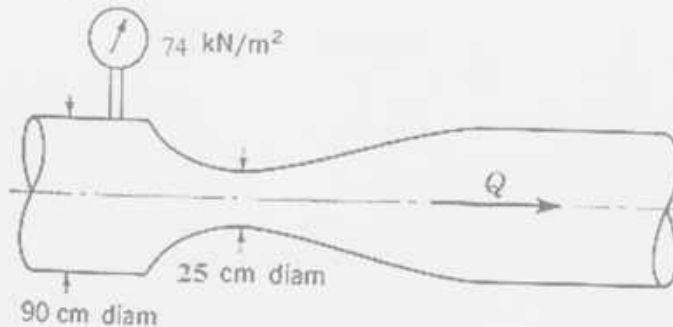

Figure 8
12. Fig. 8 shows an elastic fully plastic simply supported straight beam (subjected to eccentric axial force P), along with the moment-curvature relationship of its cross-section. Calculate the
6. (a) Write short note on the following terms: (6)
(b) A liquid ($S = 0.80$) with a $P_v = 26 \text{ kN/m}^2$, abs flows through the horizontal constriction as shown in figure 8. $P_{atm} = 70 \text{ cm Hg}$. Find the maximum theoretical flow rate without cavitation to occur. Neglect head loss. (14)